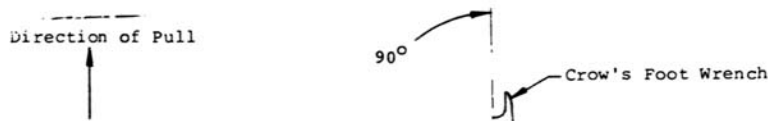

FIG. 2 CROW'S FOOT WRENCH ORIENTATION
- 9/16" "crow's foot" wrench. (During use, the "crow's foot" must be oriented 90 degrees to the torque wrench to prevent inaccurate torque readings. See Figure 2.)